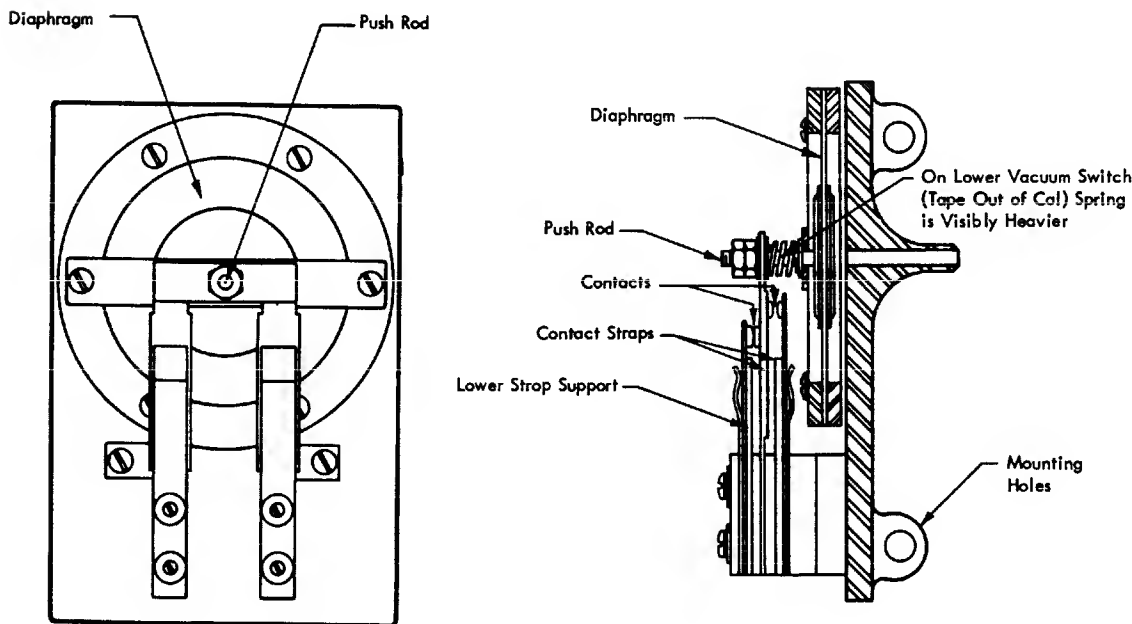

Figure 50. Vacuum Column Switch
The vacuum column switch is shown in Figure 50. The presence of a vacuum causes the diaphragm to move in a direction to transfer the contacts of the switch. For greater reliability, two sets of contacts are used in parallel.
**Push Rod:** The vacuum switch push rod should have  $\frac{1}{4}$ -inch clearance between the adjusting nuts and the switch transferring contact strap. Position the adjusting nuts as required to attain this condition. See Figure 50.